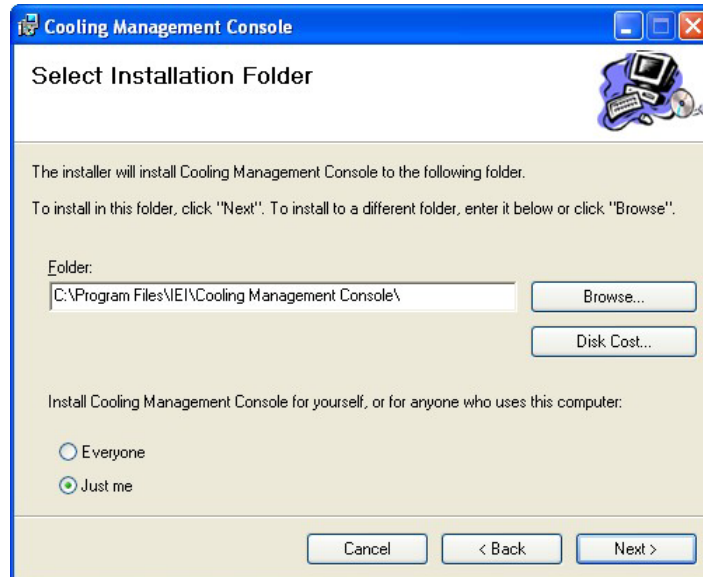

Figure 7-2: Select Installation Folder
Step 4: Select a folder for Cooling Management Console installation in **Figure 7-2**. Click **Next** to continue.